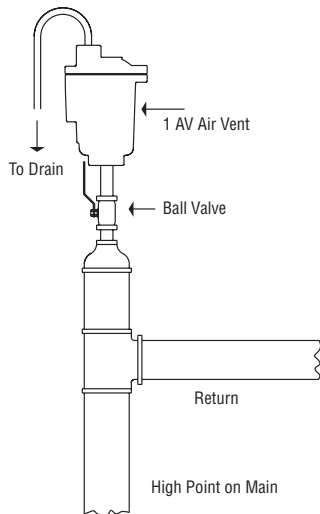

Figure 1. Installation of a Model 1 AV automatic air vent on high point of system.
■ Install air vents at all the high points on liquid service systems, hydronic systems, or any liquid storage or distribution system. See Figures 1, 2 & 3 for typical installations.